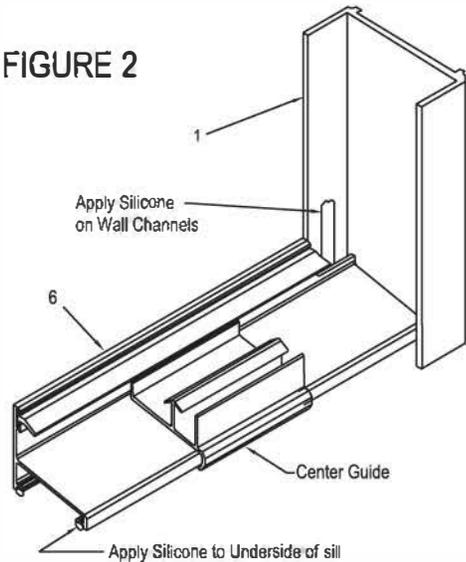

FIGURE 2
3. Cut sill (6) to fit opening between jambs. Run a bead of silicone full length to the underside of sill (See Figure 2) and apply silicone to inside of jamb where jamb meets tub. On inside of jamb, run a 1/4" bead of silicone 1 1/4" up the outside leg of each wall jamb (See Figure 2). Set sill in place and press firmly to rim of tub. Wipe off any excess silicone before curing. Use tape to hold in place until silicone has set.
6. Place center guide (7) to center position on sill (See Figure 2). Make sure the center guide is hooked into the slot position on the sill, then snap center guide to sill.